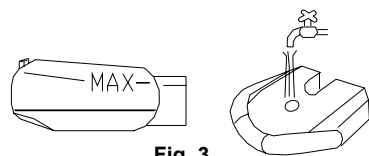

Fig. 3
4. Fill the water tank up to the "Max" mark, as shown below in fig. 3.